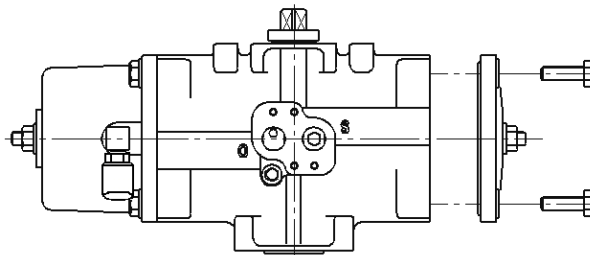

Fig.15
- (3) Equalize the housing pressure with the atmospheric level, and remove an end cover from Type FAS spring return actuator (**Fig.15**).